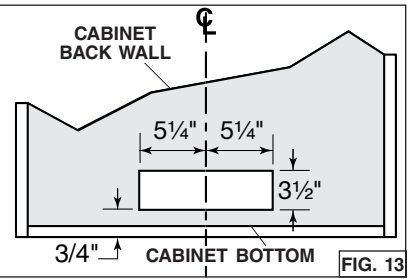

FIG. 13
8. Cut the hole for the horizontal exhaust through the back wall of the cabinet using the dimensions shown. (FIG. 13).